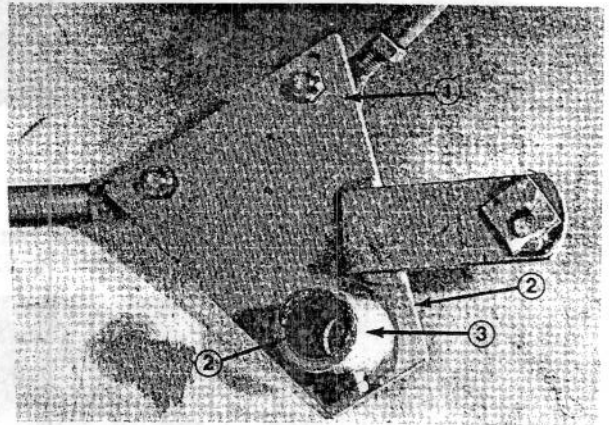

Figure 57
4. Using pin punch and hammer, drive both bushings out of steering plate (Fig. 57). Clean inside of steering plate to remove dirt and foreign matter. Also clean mounting pin on bottom of rear axle.
5. Notice groove on inside of new bushing. When it is installed, open end of groove must be to the outside of the steering plate tube. Apply grease to the inside and outside of the new bushings. Use an arbor press to drive bushings into top and bottom of the steering plate tube. Bushings must be flush with end of tube (Fig. 57).
1. Remove cotter pin and slotted nut from tie rod end that connects steering tube to steering plate (Fig. 57). Separate tie rod end from plate.